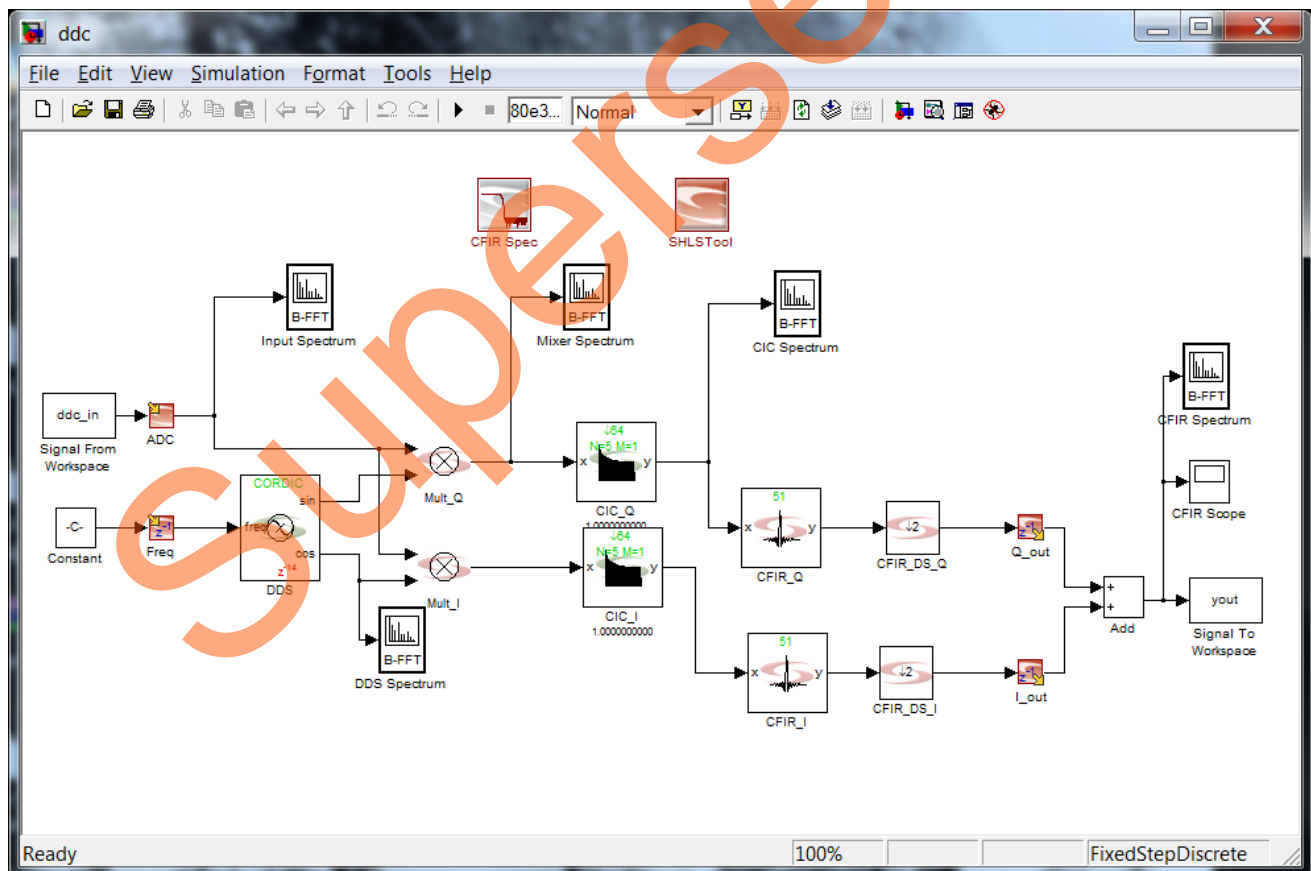

Figure 2. DDC Design
4. The **ddc.mdl** design is shown in Figure 2. Ignore the messages that pops-up by clicking **OK** and if **ddc_obsolete.mdl** pops-up, close the file.